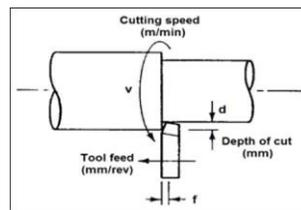

Figure Turn-10: cutting conditions
8. Adjust an appropriate cutting depth. See figure Turn-10.